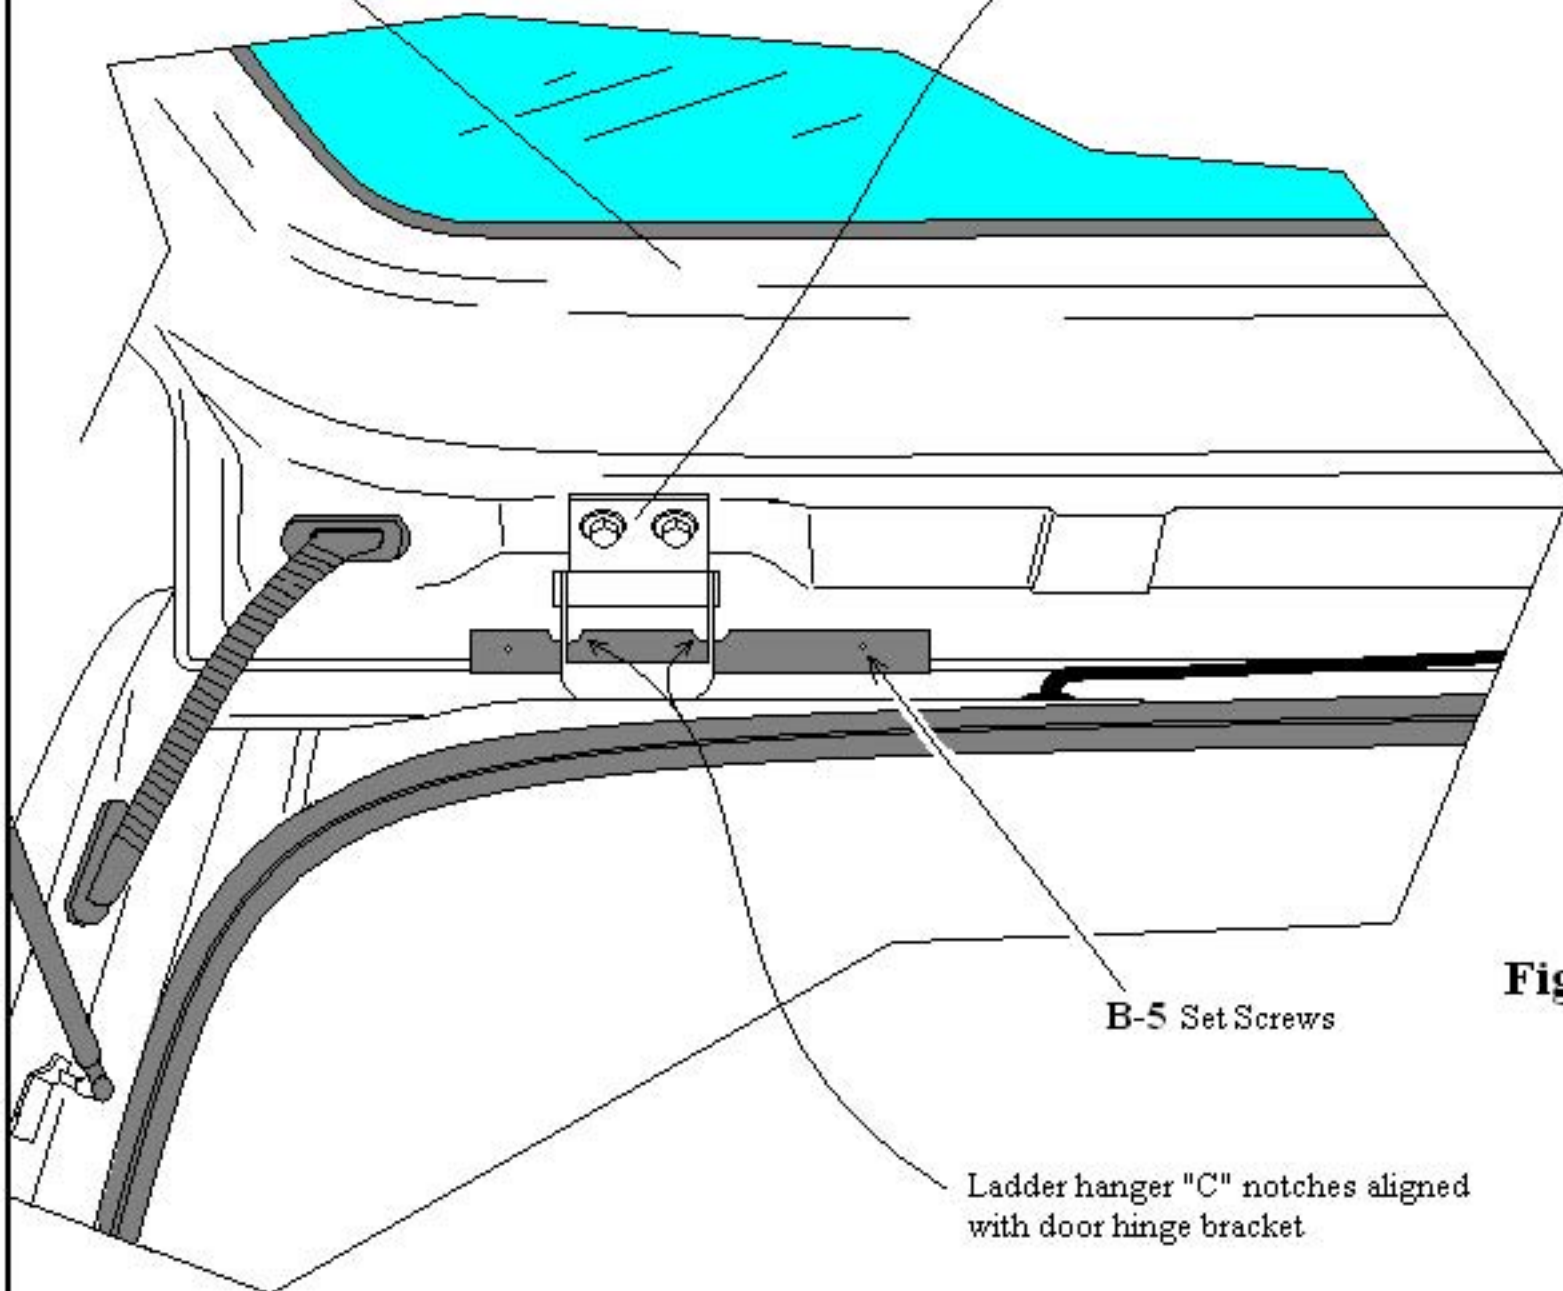

Fig. 3
- 4- Refer now to page 6 Fig. 3 open the rear door Lift Gate fully, the ladder hanger bracket "C" can now be seen under the Lift Gate door make sure the notches of the ladder hanger bracket "C" align with the rear door support hinge as shown in Fig. 3. If the bracket needs to be moved either right or left close the door and move the hanger bracket accordingly once you have confirmed that the ladder hanger bracket "C" notches are in line with the Lift Gate's door hinge remove the masking tape mark on the outside top of the Lift Gate previously attached and reposition so that the masking tape mark aligns with the ladder hanger brackets new position. Leave the door down and closed at this time.